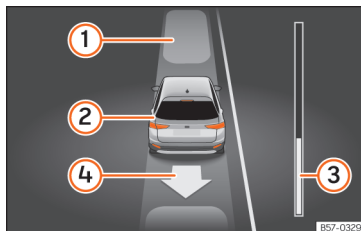

Fig. 252 On the instrument panel display: exit a parallel parking space.
panel display shows the forward indication. The progress bar »» Fig. 252 ③ indicates the distance to cover »» page 274.